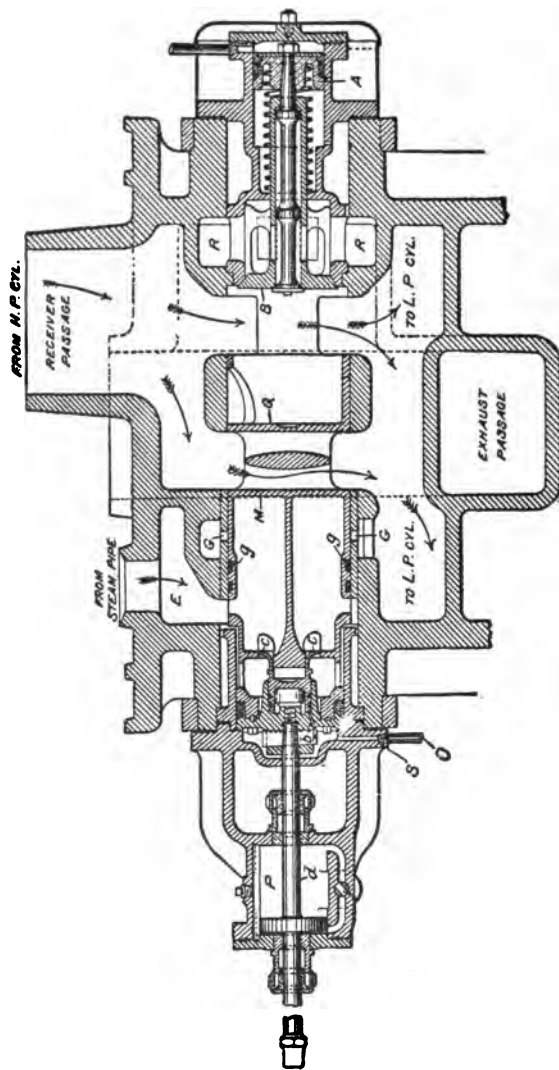

FIG. 70.—INTERCEPTING VALVE OF THE SCHENECTADY COMPOUND LOCOMOTIVE IN POSITION FOR WORKING AS A COMPOUND.
A. This is the position, shown in Fig. 70, in which the engine is in compound action. The result will not be noticeable when the engine is working regularly. But at starting
If the valve is to be put in the position of compound action, as shown in Fig. 70, it may be tied there by means of a piece of bell cord passed through the opening of the dashpot stem *d* which should therefore be removed.